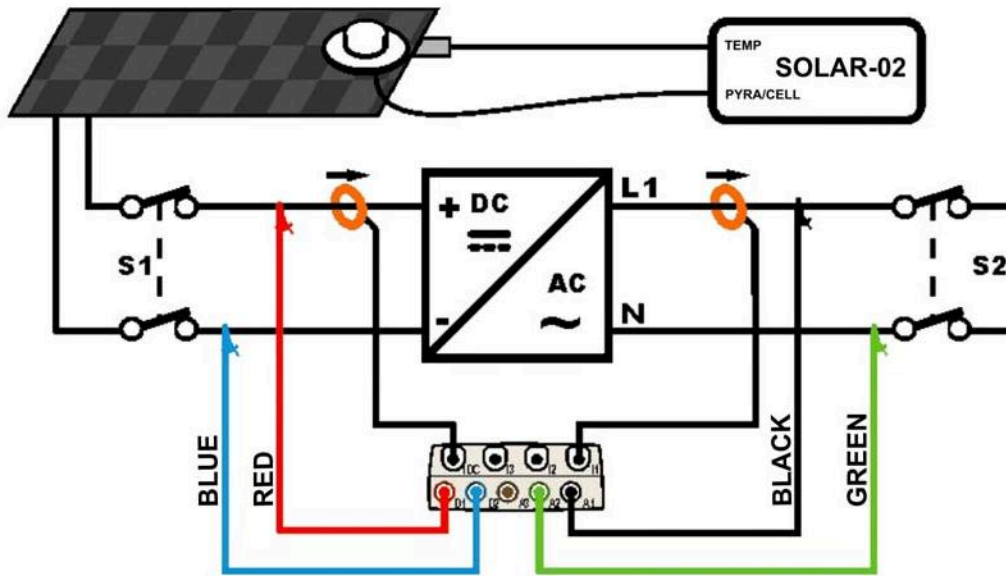

Fig. 160: Connecting the instrument in a PV-1 system with SOLAR-02
3. Connect inputs **D1** and **D2** to the positive and negative string output pole respectively. Connect inputs **A1** and **A2** to the phase and neutral conductors, respecting the colors as shown in Fig. 160
4. Connect the DC current clamp to the positive string output conductor **by respecting the direction of the arrow** on the clamp itself as indicated in Fig. 160. **Check the status of internal batteries of the DC clamp after the connection to the installation**
5. Connect the AC current clamp to the Phase L1 conductor **by respecting the direction of the arrow** on the clamp itself as indicated in Fig. 160. Connect the output of the clamp to the I1 input of the instrument.